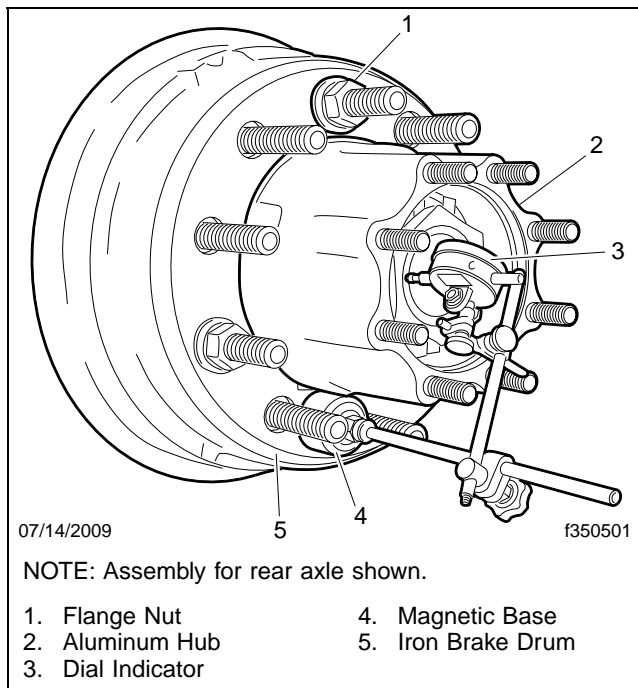

Fig. 26, Dial Indicator Setup, Aluminum Hub with Iron Brake Drum (rear hub shown)
- 3.3 Attach the magnetic base of a dial indicator to the drum (or, on vehicles equipped with iron hubs, the hub). See **Fig. 26**.